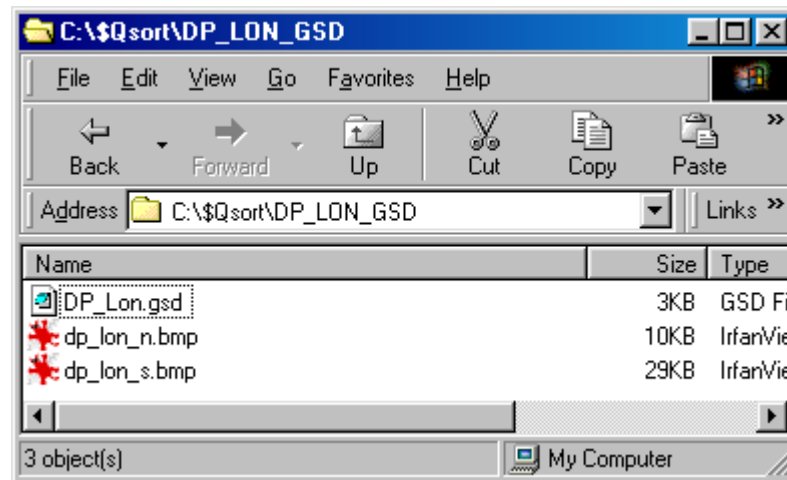

Fig. 6.1
- Copy files on Fig. 6.1 on your PC